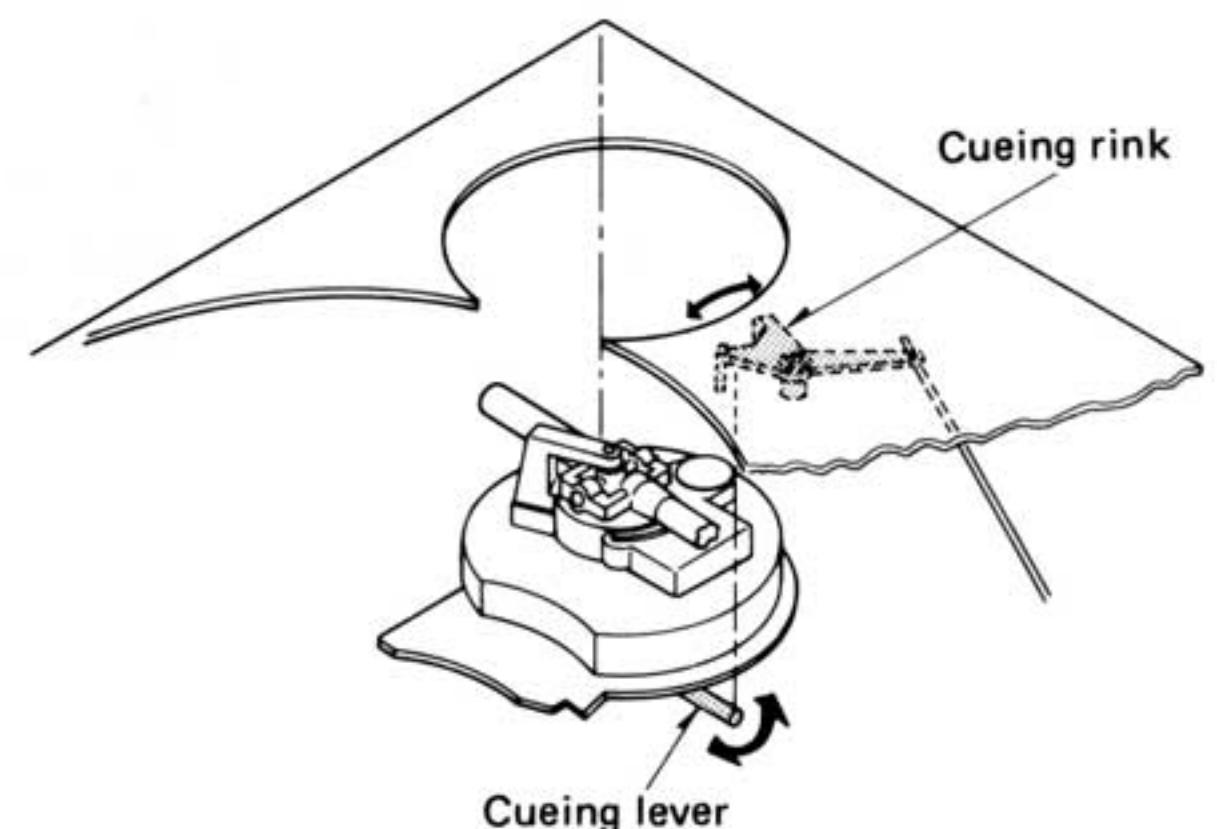

Fig. 4
11. When assembling the main base and cabinet, make sure that the cueing lever of the arm base is engaged with the cueing ring of the cabinet. (See Fig. 4)